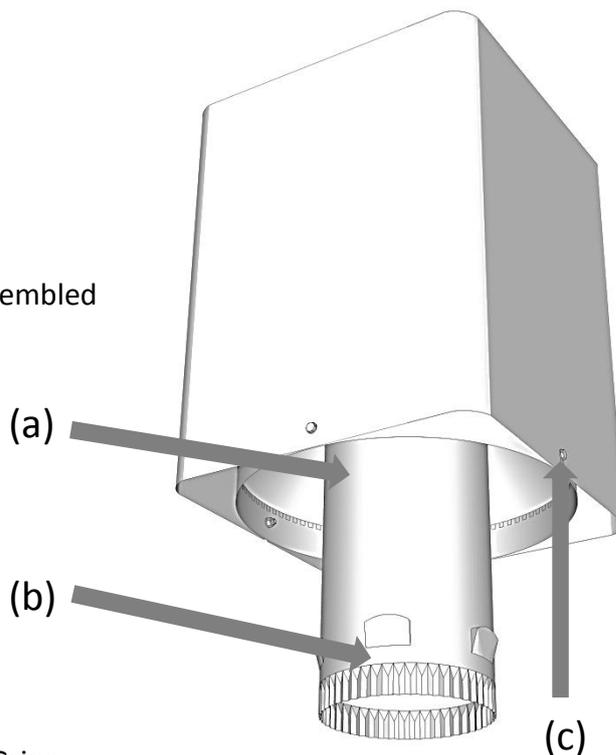

fig 6
2. Push the base cone tube into the flue until the top of the flue contacts the underside of the base cone (fig6).